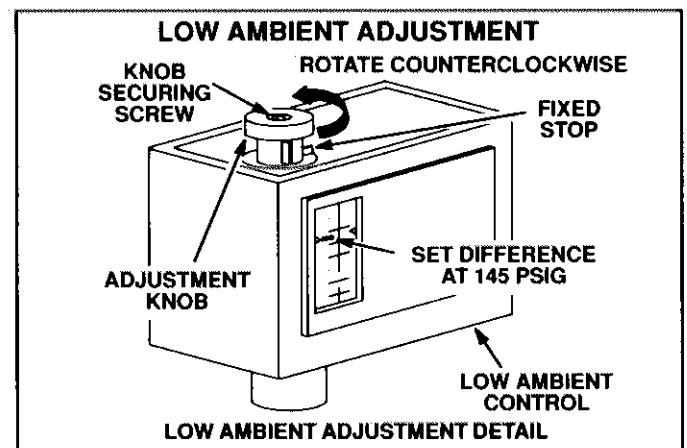

FIGURE 39
- 1- Loosen knob securing screw to allow knob stop to pass over fixed stop on control (see figure 39).